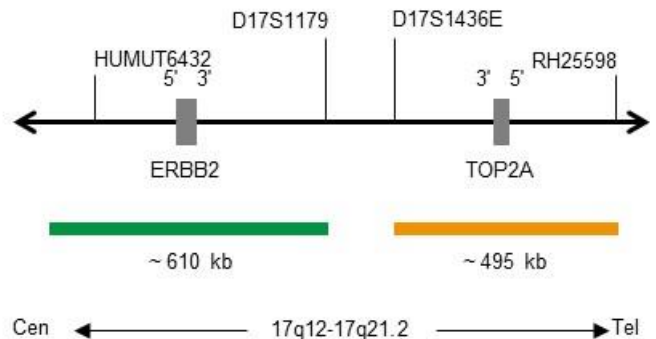

Fig. 1: SPEC ERBB2/TOP2A Probe map (not to scale)
- ZyGreen (excitation 503 nm/emission 528 nm) labeled polynucleotides (~10 ng/μl), which target sequences mapping in 17q12-q21.1\* (chr17:37,572,531-38,181,308) harboring the ERBB2 gene region (see Fig. 1).
- ZyOrange (excitation 547 nm/emission 572 nm) labeled polynucleotides (~4.5 ng/μl), which target sequences mapping in 17q21.1-q21.2\* (chr17:38,323,741-38,818,030) harboring the TOP2A gene region (see Fig. 1).